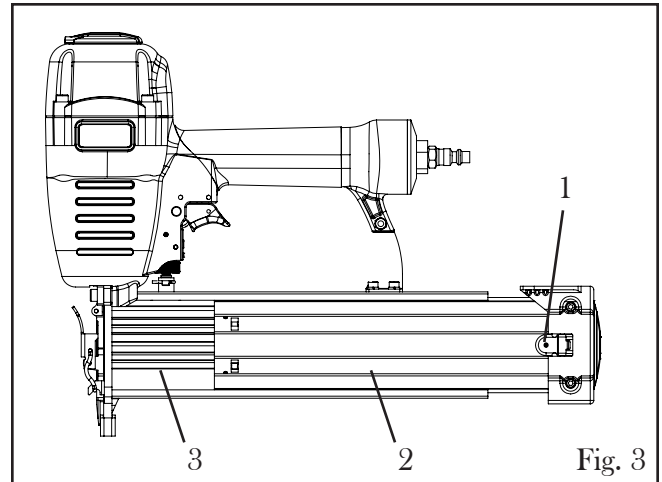

Fig. 3
LOADING THE FASTENERS (Fig. 3)
1. Press the magazine lock (Fig. 3 - 1) to pull back the movable magazine (Fig. 3 - 2).
2. Your nailer accepts 16 gauge brad nails with a nail length ranging from 3/4" to 2-1/2". A maximum of 100 fasteners may be loaded. Make sure the heads of the nails rest on the appropriate ridge inside the fixed magazine (Fig. 3 - 3) and the tips of the nails rest in the bottom slot against front of the magazine.